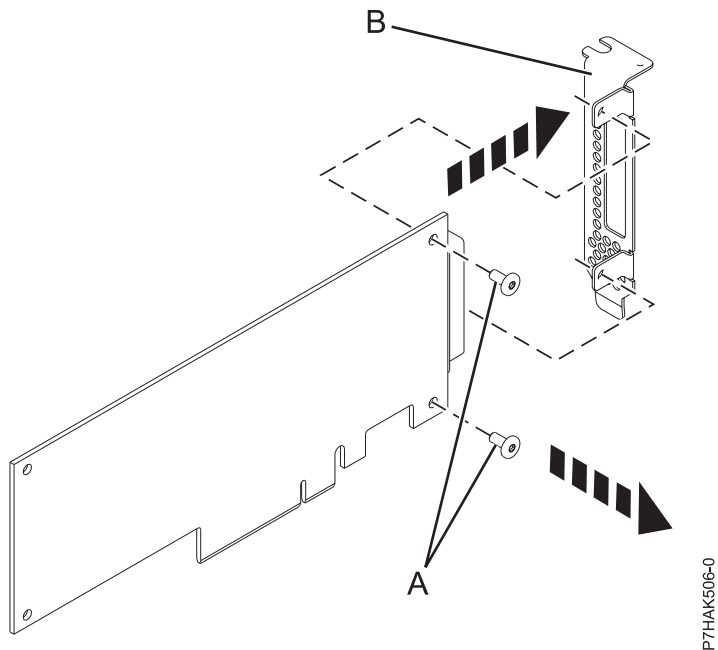

Figure 29. Removing the low-profile tailstock from a PCIe adapter
2. Using a Phillips screwdriver, unscrew the two screws (A) that attach the tailstock (B) to the PCIe adapter, as shown in Figure 29.